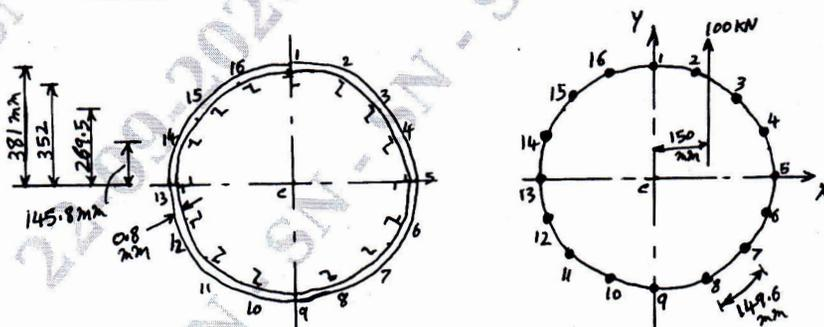

Fig.Q9
- 9 The fuselage as shown in Fig.Q9 is subjected to a vertical shear load of 100 kN applied at a distance of 150mm from the vertical axis of symmetry as shown for the idealized section. Calculate the distribution of shear flow in the section.